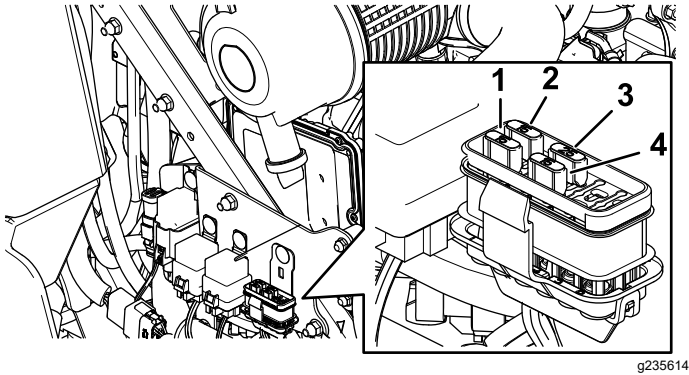

Figure 49
3. Install a new fuse (Figure 49).